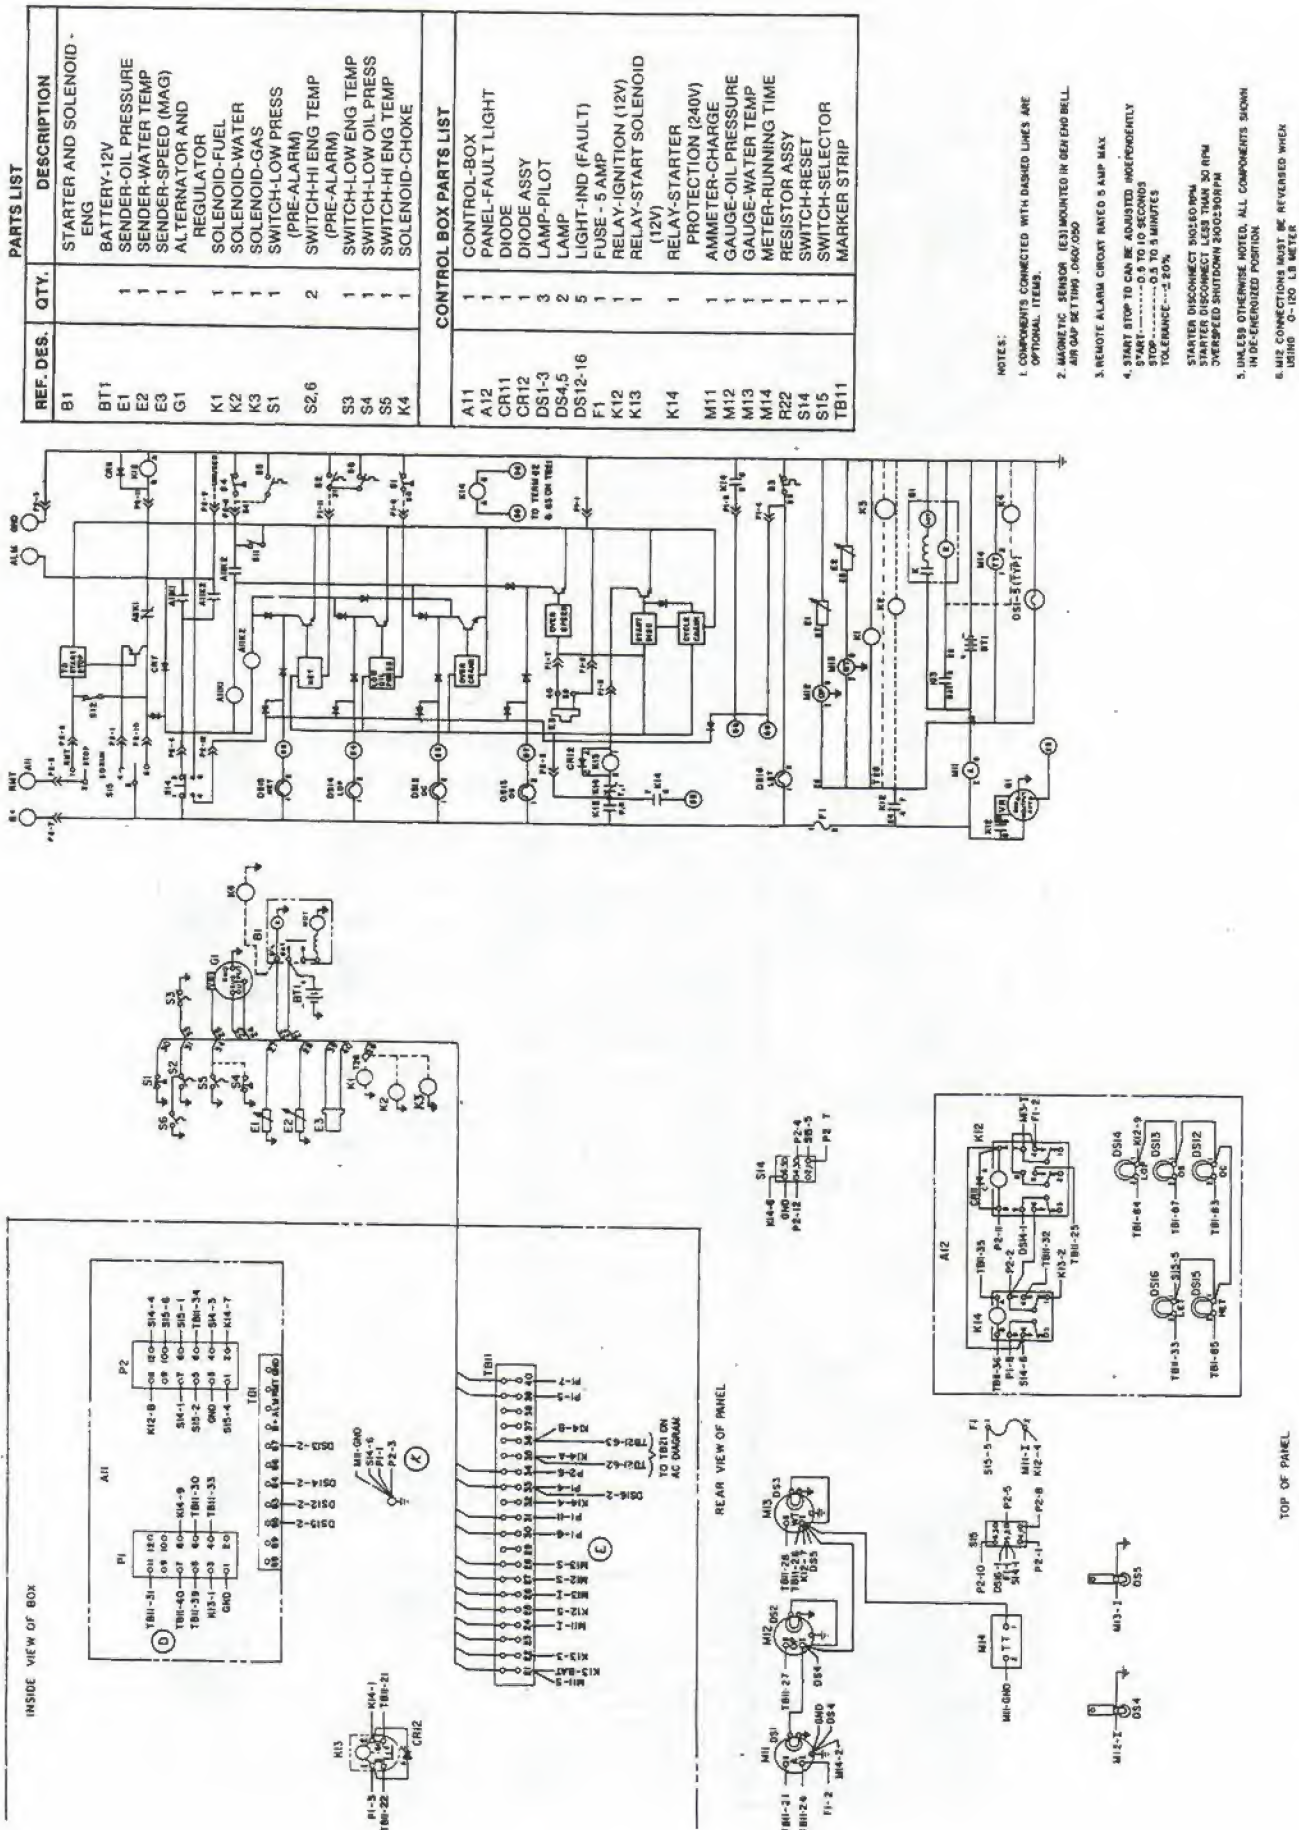

FIGURE 6. FIVE-LIGHT 12 VDC CONTROL SCHEMATIC AND WIRING DIAGRAM (612-5433)
- FIGURE 6. FIVE-LIGHT 12 VDC CONTROL SCHEMATIC AND WIRING DIAGRAMS (612-5433)